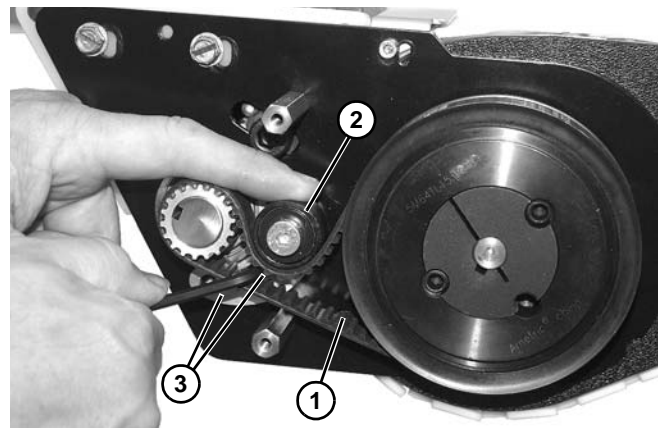

Figure 164
- On drive end, route and install belt (**Figure 164, item 1**) as shown. Press down on tensioner (**Figure 164, item 2**) and tighten two socket head screws (**Figure 164, item 3**).